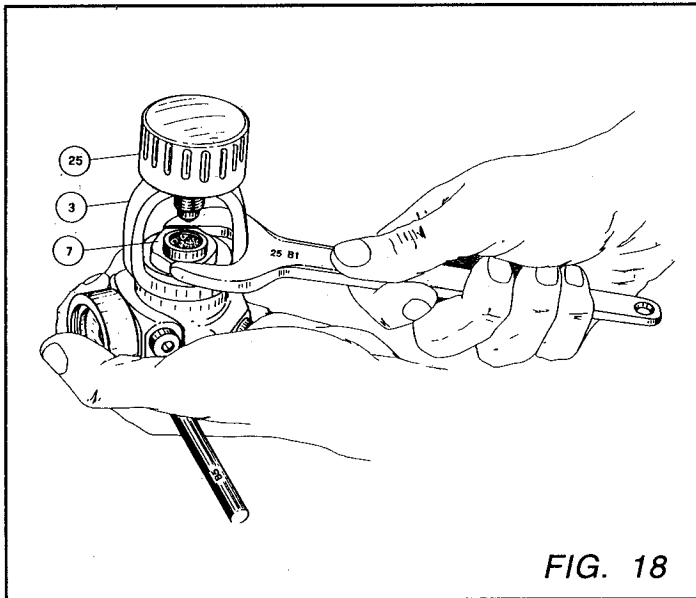
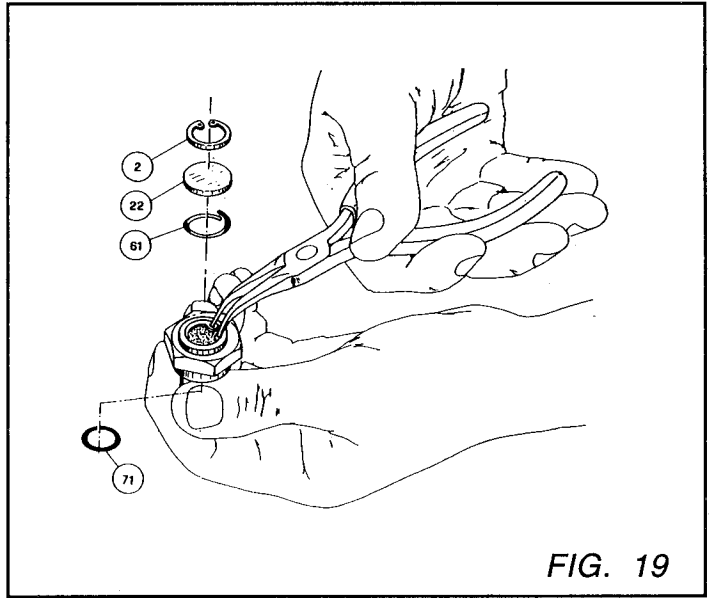

FIG. 18
FIG. 19
19. Remove yoke retainer nut (7) with wrench (B1) then remove yoke (3) and yoke knob (25) (Fig. 18).
20. Remove o-ring (71) from yoke retainer nut.
21. Remove filter retaining ring (2) with snap ring pliers (Fig. 19).
22. Lift out sintered filter (22) and filter spring (61).
24. Remove low (20) and high pressure (53) port plugs. Remove o-rings (19) and (52).